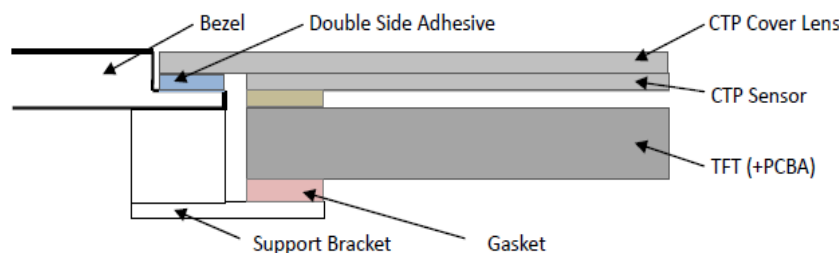

Figure 2
10.2 Surface Mounting (Figure 2)
10.2 嵌入安装 (附图 2)